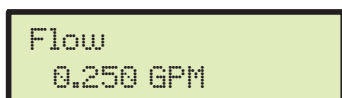

Fig. 62
- Press **OK** to automatically pass to the setting of the flowrate for the selected nozzle (Fig. 62).